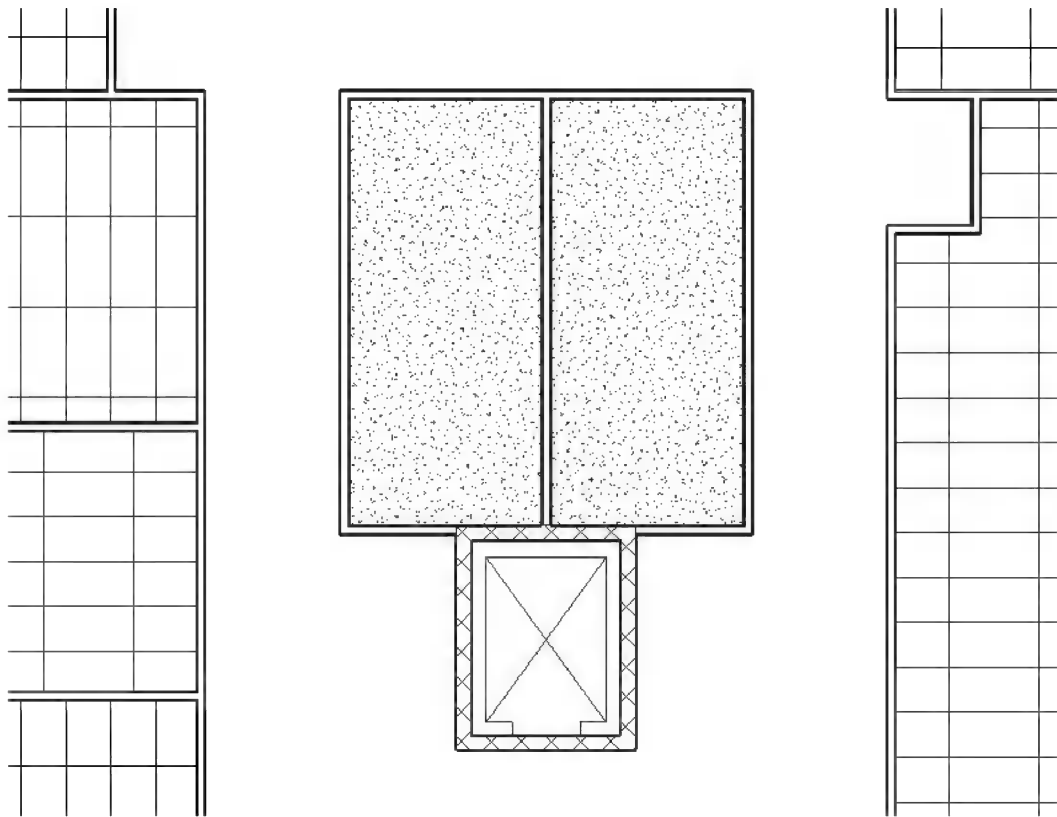

Figure 7-2.9 Gyp. Bd. Ceiling
29. Pick the two bathrooms on Level 1, which are the two rooms North of the elevator (Figure 7-2.9).